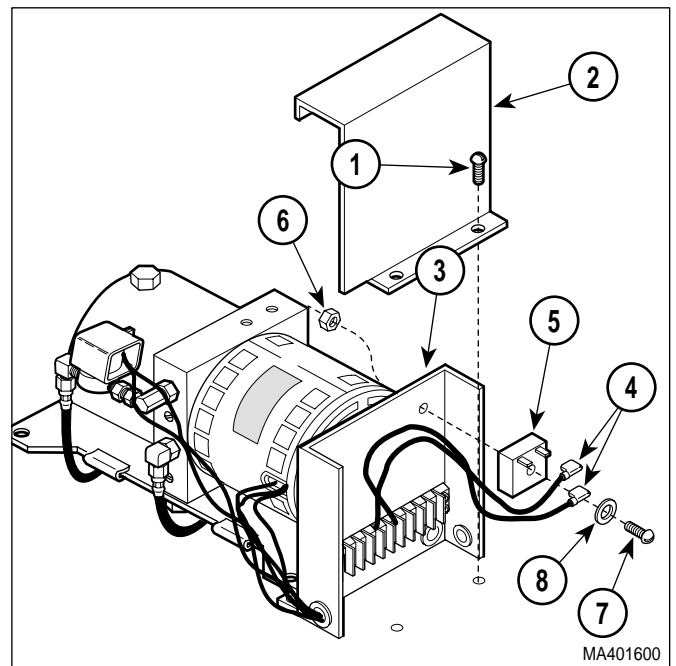

Figure 4-23. Time Delay Relay Removal / Installation
- (2) Remove motor cover assembly (Refer to para 4.2).
- (3) Remove two screws (1, Figure 4-23) and control cover (2) from control panel (3).
- (4) Tag and disconnect two wires (4) from terminals of time delay relay (5).
- (5) Remove nut (6), screw (7), washer (8), and time delay relay (5) from control panel (3).